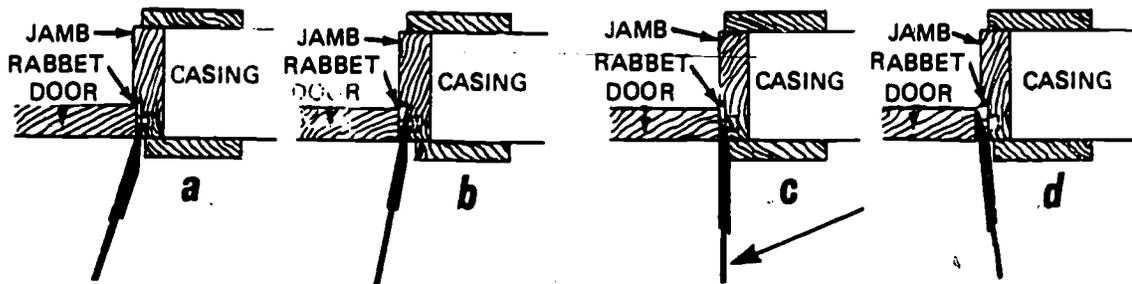

Figure 3-27. Forcing a door that opens toward you.
Forcing Doors That Open Toward You. The door hinges and jambs should be checked to determine the direction the door swings. If the door opens toward the firefighter, it must be forced in a certain manner. Several forcible entry tools may be used for this operation. The techniques of their use are similar. The steps are as follows and as shown in figure 3-27.
Step 1. Insert a blade of the tool between the door and jamb (fig. 3-27, item a) near the lock (upper half of fig. 3-24).
- Step 2. Force the blade in and against the rabbet or stop by working and pushing on the tool. (The tool may be hammered with another object). (See fig. 3-27, item b.)
- Step 3. Pry on the tool bar away from the door to move the door and jamb apart. (See fig. 3-27, item c.)
- Step 4. Pull the door open or pry it open with another tool when the lock has cleared the keeper. (See fig. 3-27, item d.)